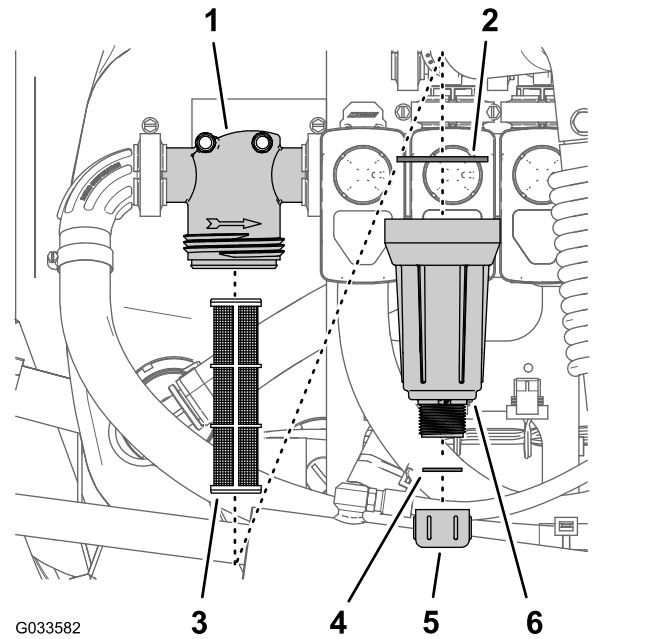

Figure 80
2. Align a drain pan under the pressure filter (Figure 80).
3. Rotate the drain cap counterclockwise and remove it from the bowl of the pressure filter (Figure 80).
4. Rotate the bowl counterclockwise and remove the filter head (Figure 80).
5. Remove the pressure filter element (Figure 80).
7. Check the gasket for the drain plug (located inside the bowl) and the gasket for bowl (located inside the filter head) for damage and wear (Figure 80).
8. Install the pressure filter element into the filter head (Figure 80).
9. Install the bowl onto the filter head, and tighten by hand (Figure 80).
10. Assemble the drain cap onto the fitting at the bottom of the bowl, and tighten the cap by hand (Figure 80).